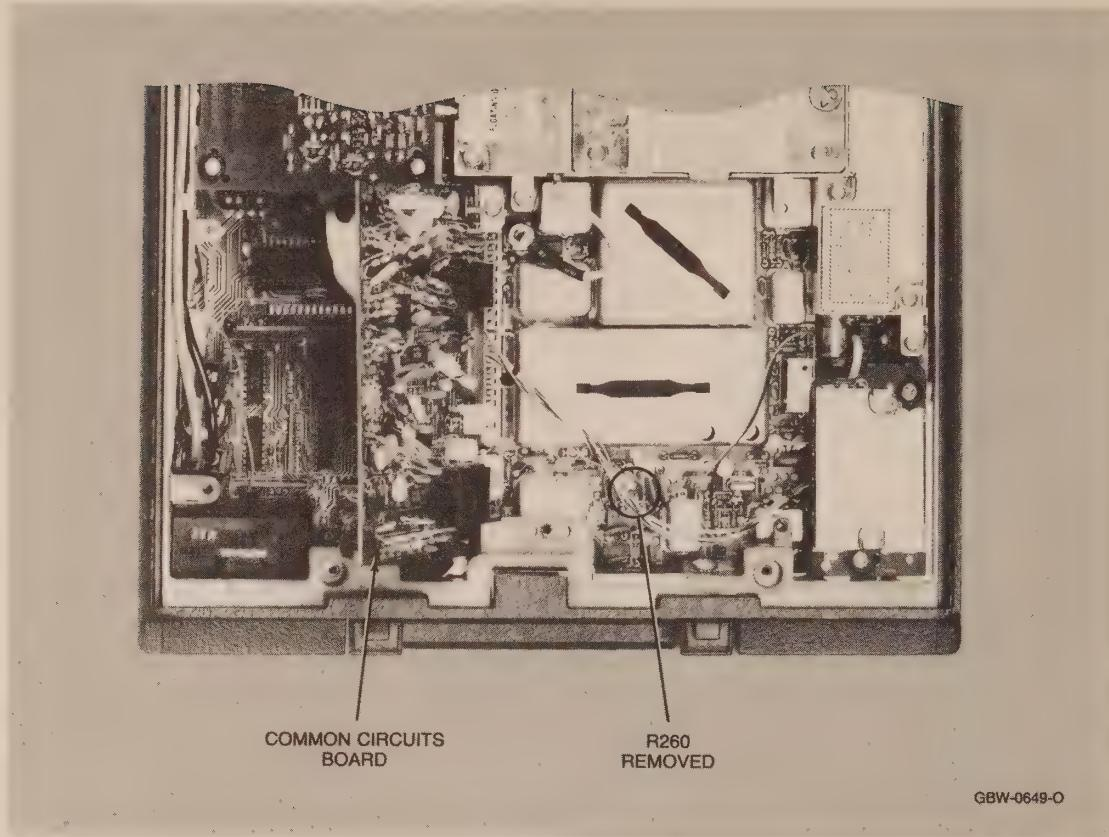

Figure 7. 800-MHz SYNTOR X Radio with Common Circuits Boards Hinged Out
(4) Remove rf board component R260 (between U251 and Q250). (See Figure 7.)
(5) Slip the free end of the HKN4160A adapter cable through the gap between the two cable connectors on the common circuit board and then solder it to U251-5 at the hole formerly occupied by R260.
(6) Insert the three-pin connector of the HKN4160A adapter cable into J301 on the HLN4270B interface board.
(7) Reinstall the common circuits board.
(8) Reinstall the bottom cover and the mounting plate.